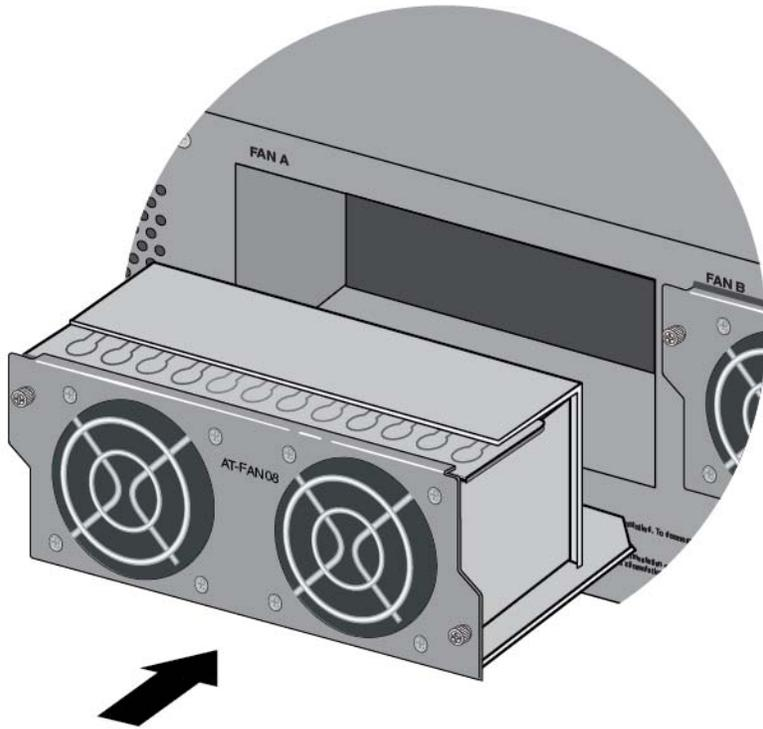

Figure 129. Aligning the FAN08 Module in the Chassis Slot
1. Align the FAN08 Module in the slot as shown in Figure 129 on page 211.